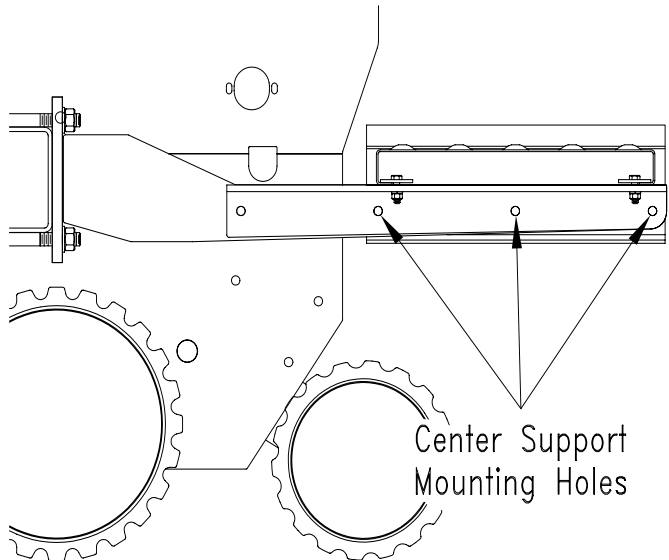

Figure 4 13270
- 5. Attach Center Supports (#10) to each Center Mount using three 1/2" x 1 3/4" long hex bolts (#11) and three 1/2" flange nuts (#4) for each support. See Figure 4 for mounting hole locations.